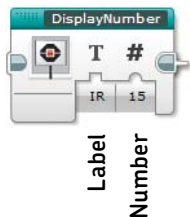

Figure 15-14: The *DisplayNumber* My Block. In this configuration, it displays IR: 15.
To get started, you’ll create a My Block with two input plugs called *DisplayNumber*, as shown in Figure 15-14. The purpose of this block is to combine the information from the Text input called *Label* and the Numeric input called *Number* and display the result on the EV3 screen.
8. Click **Finish**. You should now see the contents of the DisplayNumber My Block on its own tab inside your project, as shown in Figure 15-20. You should also see the Label and Number plugs, although the wires aren't connected yet. The plugs carry the values *passed to the My Block from the main program*. That is, if you enter IR and 15, as shown in Figure 15-14, Label carries IR and Number carries 15.